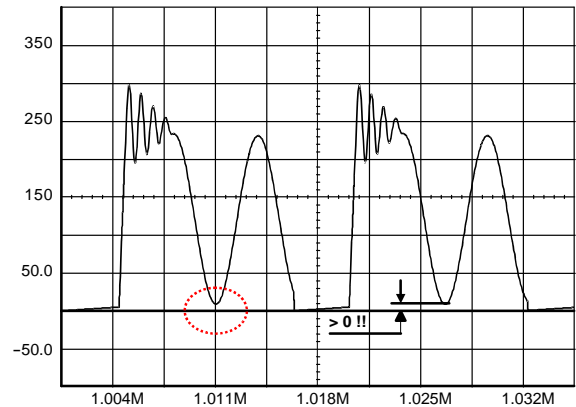

Figure 45. The Drain-Source Wave Shall Always be Positive
1. The lateral MOSFET body-diode shall never be forward biased, either during start-up (because of a large leakage inductance) or in normal operation as shown in Figure 45. This condition sets the maximum voltage that can be reflected during t_{off} . As a result, the Flyback voltage which is reflected on the drain at the switch opening cannot be larger than the input voltage. When selecting components, you thus must adopt a turn ratio which adheres to the following equation:
Figure 47a: the simple capacitor limits the voltage according to the lateral MOSFET body-diode shall never be forward biased, either during start-up (because of a large leakage inductance) or in normal operation as shown by Figure 45. This condition sets the maximum voltage that can be reflected during t_{off} . As a result, the flyback voltage which is reflected on the drain at the switch opening cannot be larger than the input voltage. When selecting components, you must adopt a turn ratio which adheres to the following equation eq. 5. This option is only valid for low power applications, e.g. below 5 W, otherwise chances exist to destroy the MOSFET. After evaluating the leakage inductance, you can compute C with (eq. 6). Typical values are between 100 pF and up to 470 pF. Large capacitors increase capacitive losses...